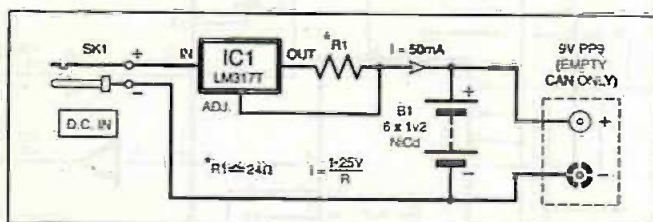

Fig.3. Rechargeable PP9 circuit. Note all components are housed inside the discarded PP9 casing.
**I**F YOU discard exhausted PP9 layer-type batteries this can become an expensive process as these batteries cost about three pounds each. It was decided to provide an alternative using Nickel Cadmium cells together with an extremely simple charging circuit which is built within the housing of an exhausted PP9 battery. The circuit diagram is shown in Fig. 3.